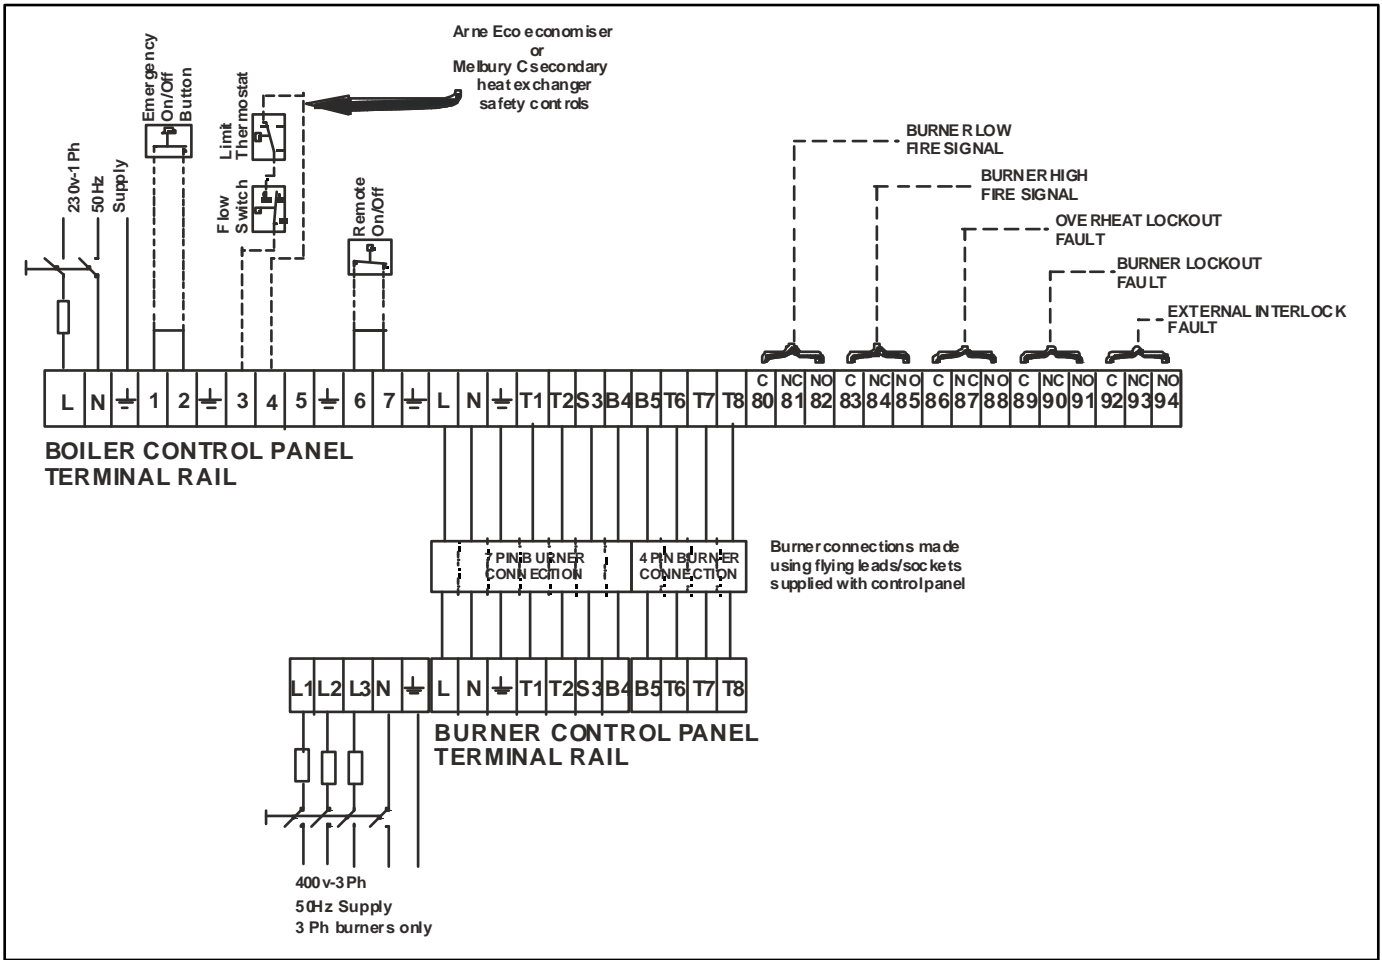

Figure 4.5 - Arne Eco controls wiring to Ensbury LT & Melbury HE boiler control panel
- **The flow switch and manual reset limit thermostat set at 100°C (supplied by HHL) must be fitted in accordance with Figures 4.5 & 4.7.**
FOR TYPICAL SCHEMATIC DETAILS SEE FIGURE 4.5 & 4.7
The separately supplied Limit Thermostat and differential pressure switch providing over temperature and water flow protection **MUST** be fitted into the hydraulic circuit as shown in Appendix E and connected to the electrical controls as shown in figures 4.5, 4.7 & 5.5.